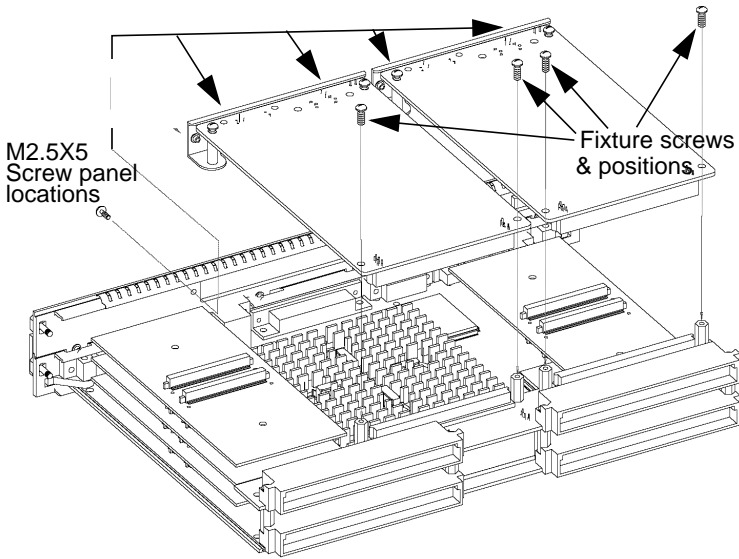

Figure 5-4 **GSC Fasteners**
- 1 Working from the back of the Model 743 Board Computer, the GSC graphics cards are in either the right-hand or center position shown in Figure 5-4.